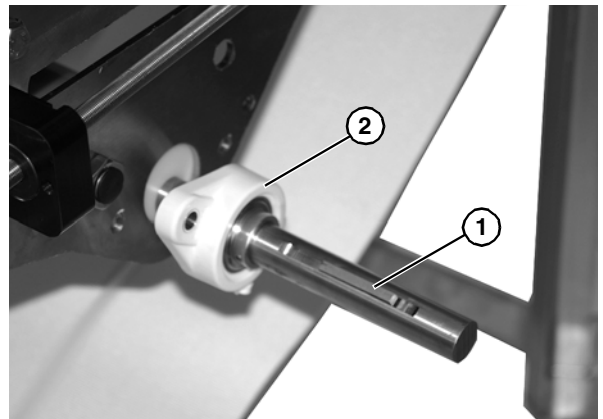

Figure 91
8. Remove key (Figure 91, item 1) and remove bearing collar (Figure 91, item 2).